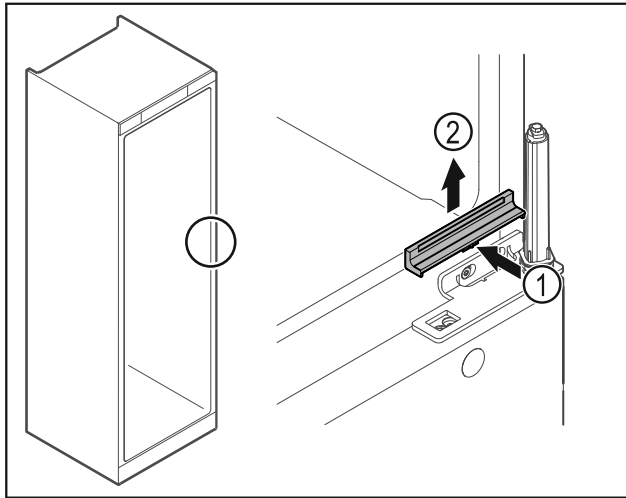

Fig. 31
- ▶ Gently press the middle of the cover Fig. 31 (1) and lift it off Fig. 31 (2).